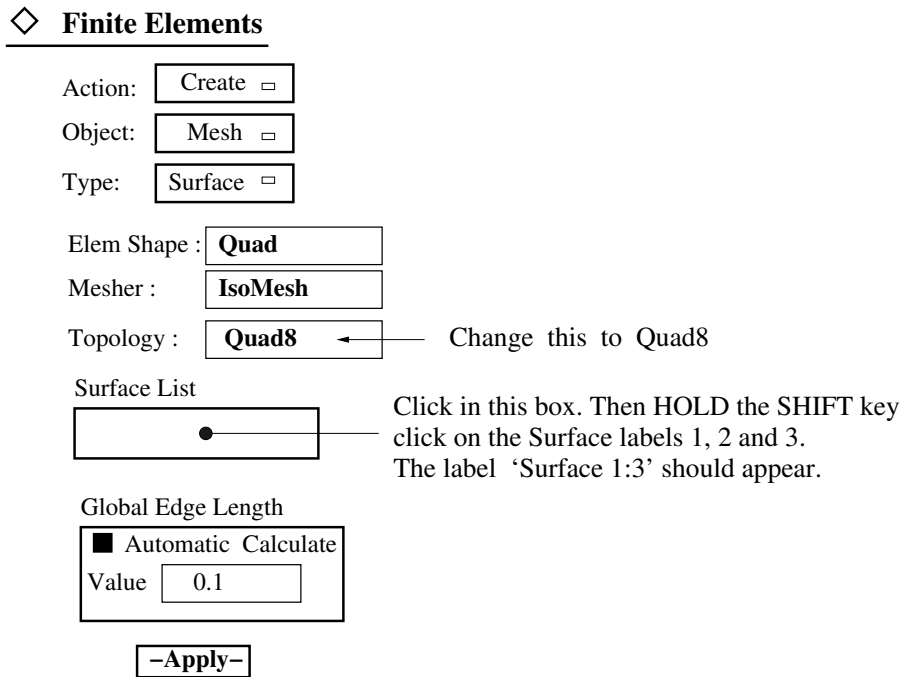

Figure 25: Create Mesh
- Change Action/Object/method to Create/Mesh/Surface (**Figure 25**). Click on the 'Quad 4' setting for 'Topology' and look through the available element types. For the present example choose the **Quad8** elements. This is the 8-noded quadrilateral element.